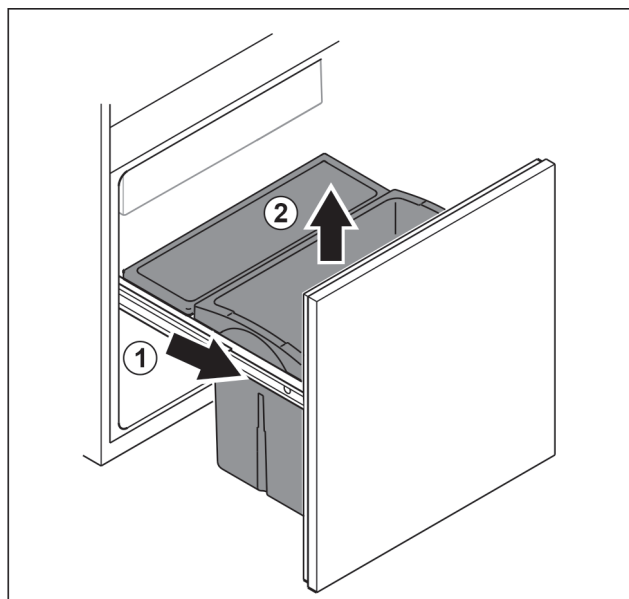

Fig. 103
- Remove the pull-out unit as far as it will go. Fig. 103 (1)
- Remove drawer upwards. Fig. 103 (2)